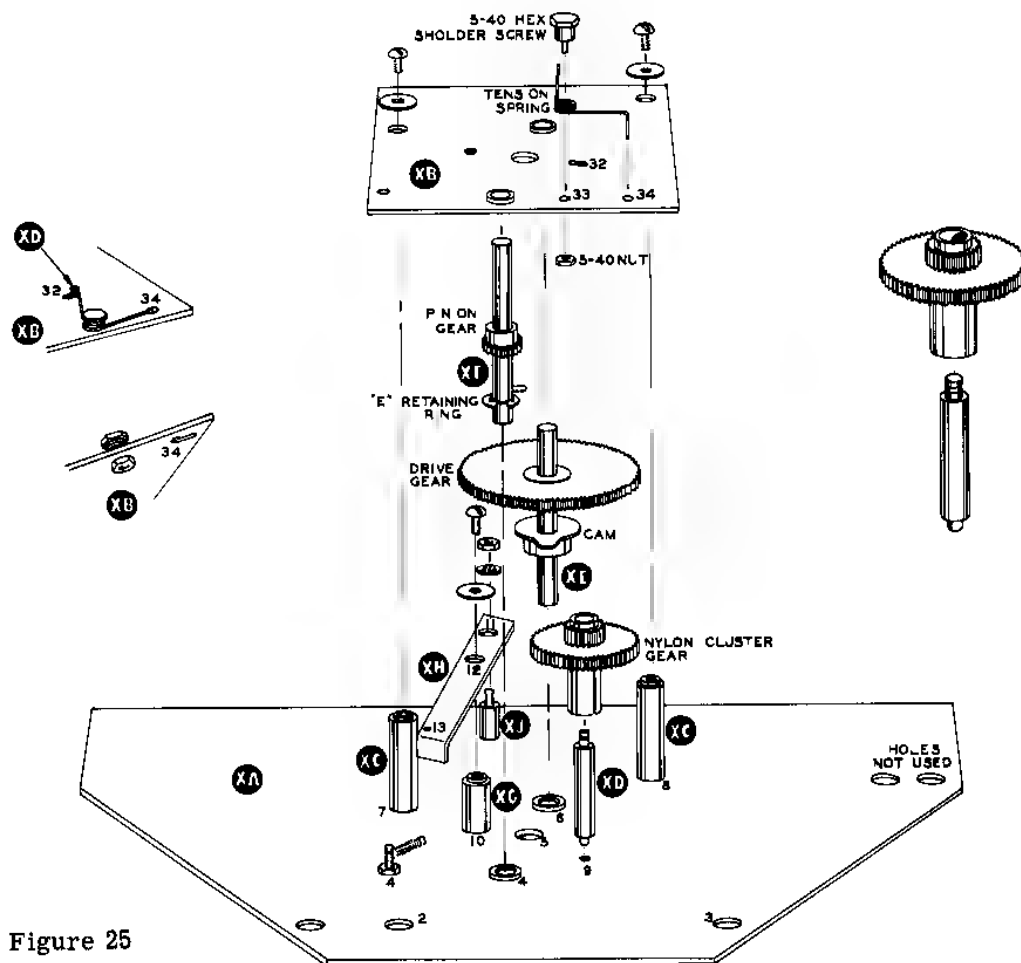

Figure 25
- () ~~Refer~~ carefully to Figures 25 and 26. Locate the parts illustrated and note their designation. Parts will be given two letter designations (XA, XB, etc.), and holes will be numbered. The gear train will be assembled first, then the dial drum. The Figures presented here will be worth more than all the words that could be used to describe this assembly process. A complete understanding of the pictorials before starting will result in a rather simple assembly job.
- () ~~Place~~ the backplate XA on the top of an open cardboard box with the flanged side of the bronze bearings up and the narrow side toward you, as in Figure 25. Placing the unit on a box allows it to be flat but permits the shafts to be inserted through the bearings and supports them in position. From time to time it will be necessary to pick up the backplate for assembly purposes, but returning it to the "reference" position will make the assembly instructions clearer.
- () Referring to the detail in Figure 25, insert the cluster gear pivot shaft into the nylon cluster gear as shown, the small rounded end of the shaft at the end of the cluster gear away from the gears.
- () Slide the cluster gear and shaft into place as shown in Figure 25, so the small rounded end of the shaft falls into hole 9 on the back plate with the small nylon gear meshing with the large drive gear and the larger nylon gear meshing with the small pinion gear.